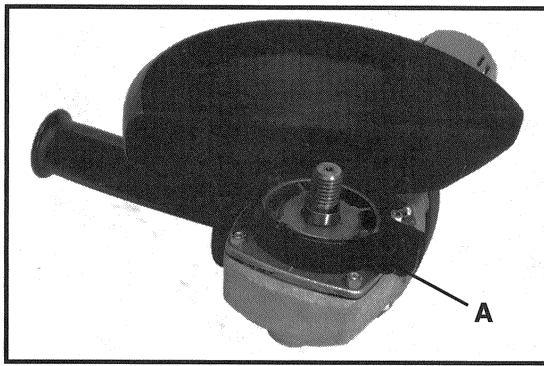

Fig. 3
4. Seat guard onto mounting flange and firmly tighten mounting screw (A) Fig. 3.